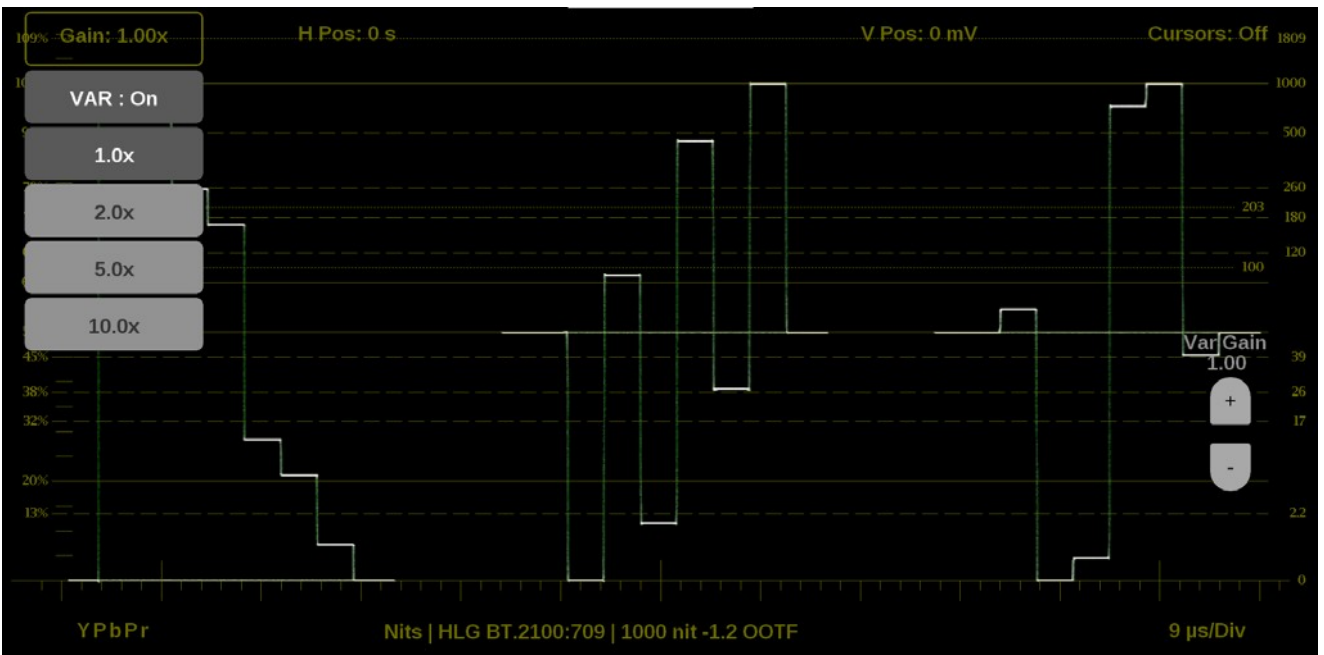

Figure 92: Waveform on-screen tools – Gain
1. Select the **Gain** button to expand the available magnification options drop down list. (See Figure 92.)